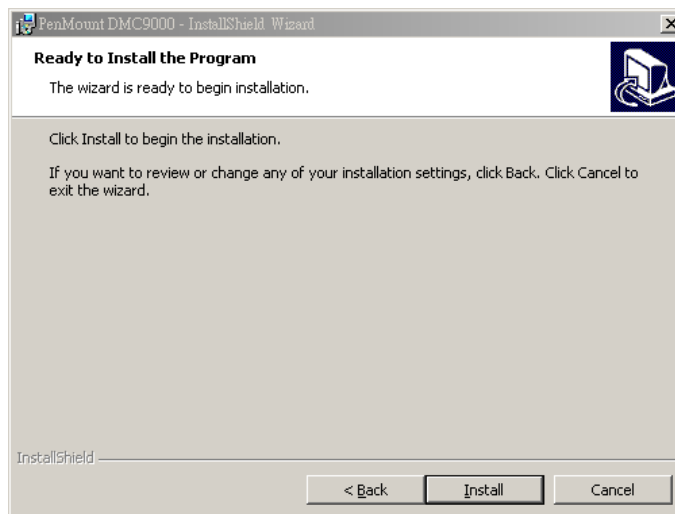

Figure 7-27: Ready to Install the Program
Step 5: Click **NEXT** and the Installshield Wizard is ready to install the program (Figure 7-27).